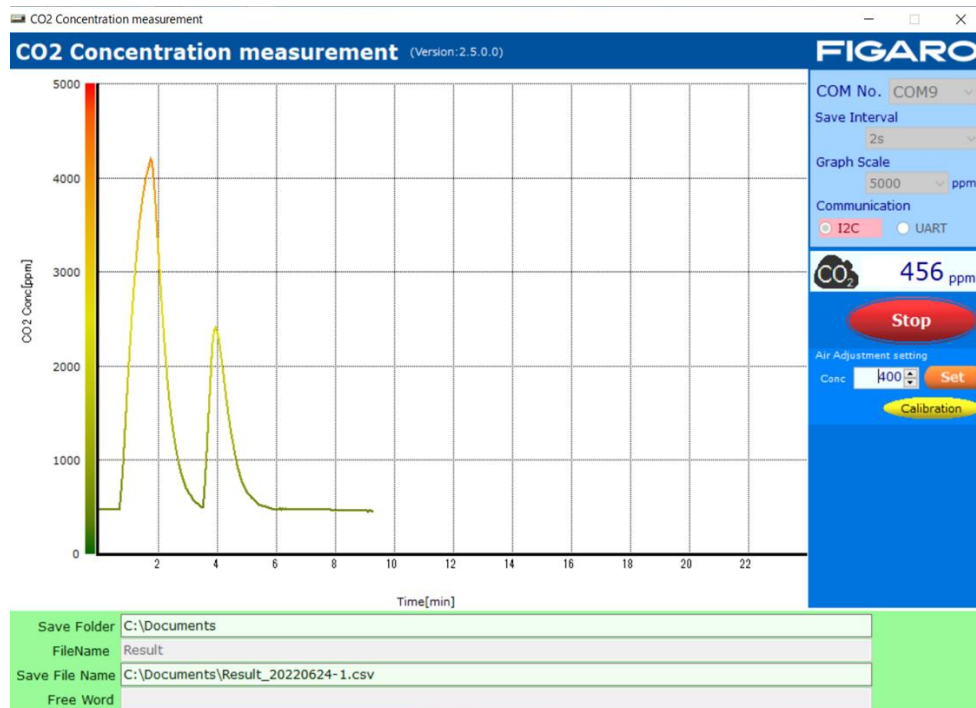

Figure 9 - Measurement Data Display Example
- The screen displays data from the most recent 10 minutes of measurement data for a measurement session (see Figure 9).